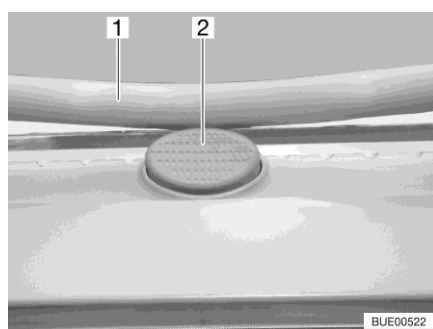

Fig. 28 Safety knob (Heki skylight)
- Press the safety knob (Fig. 28,2) and pull the bar (Fig. 28,1) down with both hands.
- Push the bar upwards with both hands until it is above the safety knob (Fig. 28,2).